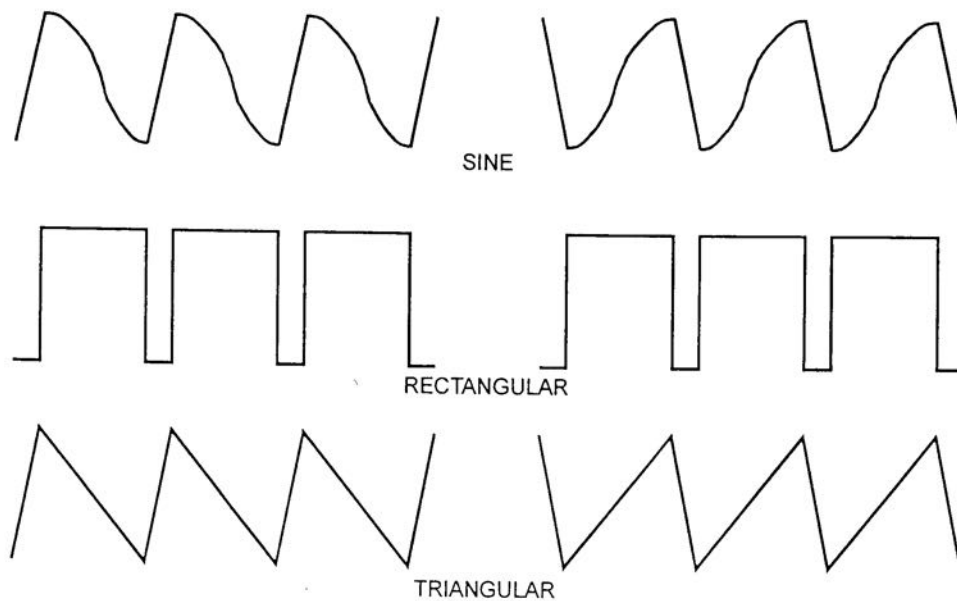

Fig 4.3
4.1.2 Variable Symmetry. (See Fig 4.3)